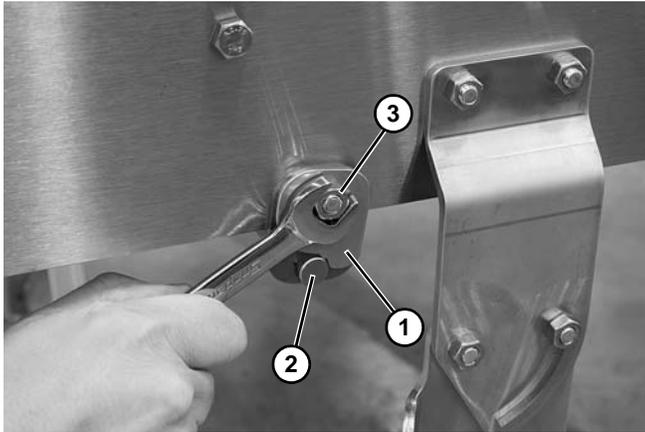

Figure 21
- Rotate return clip (**Figure 21, item 1**) down against shaft (**Figure 21, item 2**) on both sides of conveyor. Tighten nuts (**Figure 21, item 3**).